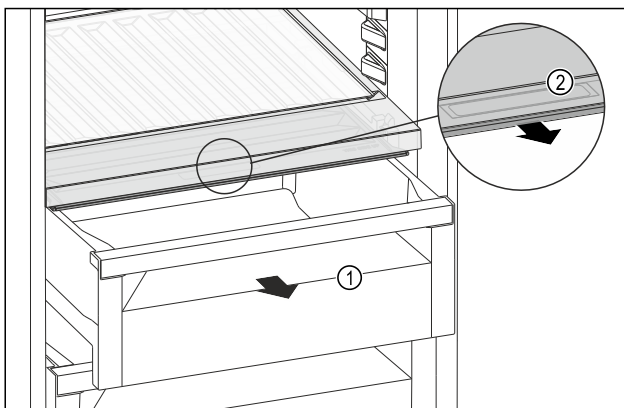

Fig. 230
- Pull out the drawer Fig. 230 (1).
- Grasp the recessed grip Fig. 230 (2) on the compartment lid and pull the compartment lid forwards at the same time.